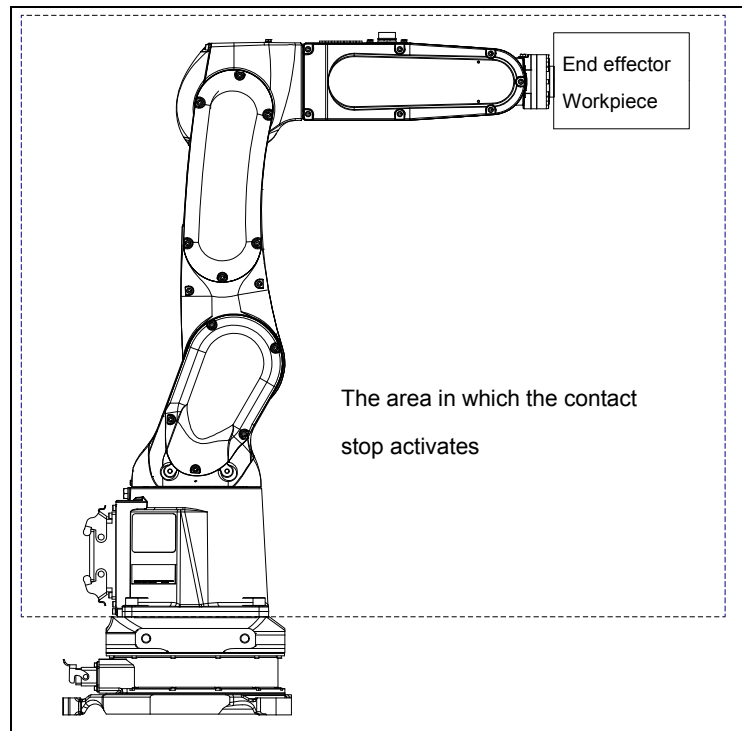

Fig 3.6 (a) Contact stop parts of robot
- When a person contacts to the parts of robot showed in Fig. 3.6 (a), the robot doesn't stop.